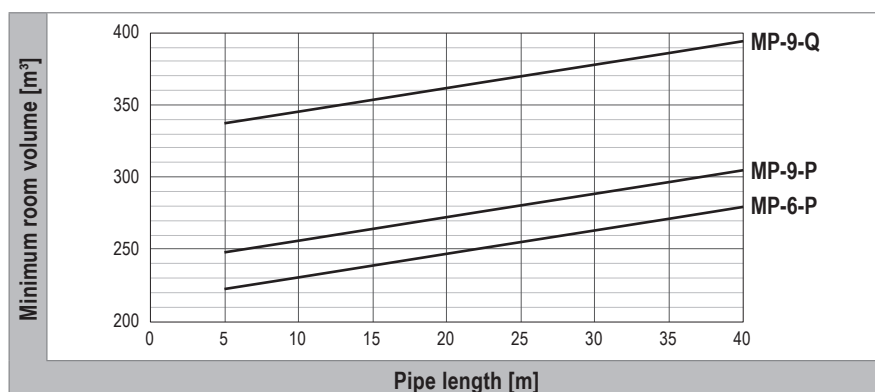

Fig. C5: Minimum room volume depending on the total refrigerant charge in accordance with EN 378
- The room volume corresponds to the minimum values shown in Fig. C5 meaning that the permissible QLMV value is not exceeded.